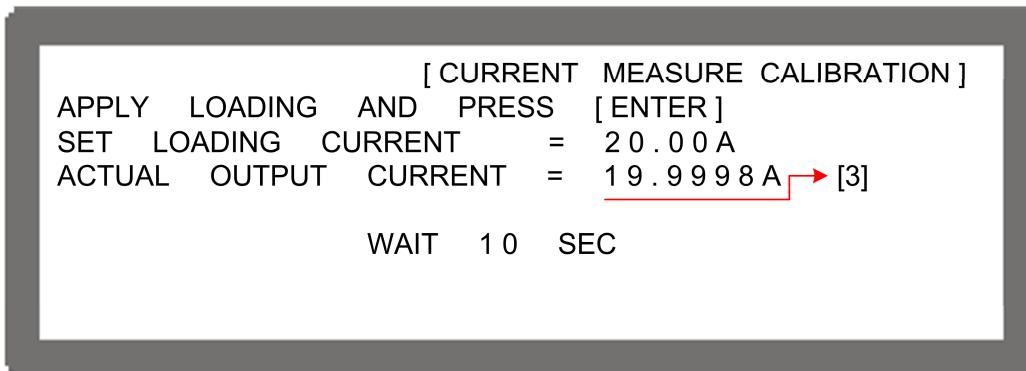

Figure 3-107
9. For the high current range calibration, press “” to perform the 20A calibration. The cursor will stop at position [3] as shown in Figure 3-107 for setting the loading current of the Electronic LOAD to 20.00A. Enter the current (enter 4 digits after the decimal point) read by the Current Shunt (DVM) and press “” to confirm and wait for the test to end.